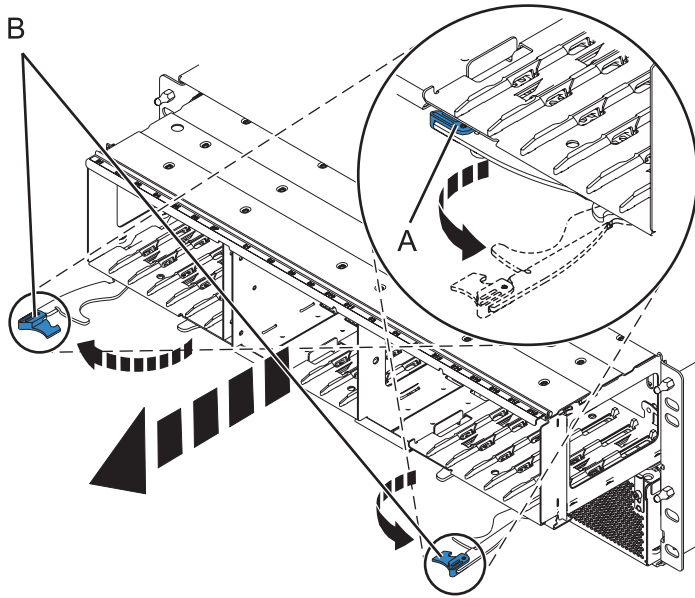

Figure 64. Removing the backplane from the enclosure
6. Remove the backplane as shown in Figure 64 on page 81.